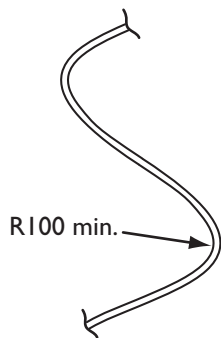

Fig. 13
5. The pipe should be routed so that any sharp bends, dips and loops are avoided. A minimum radius of 100mm is recommended for any bends (Fig. 13). No slope is necessary and air breaks are not required on the pumped part of the run.